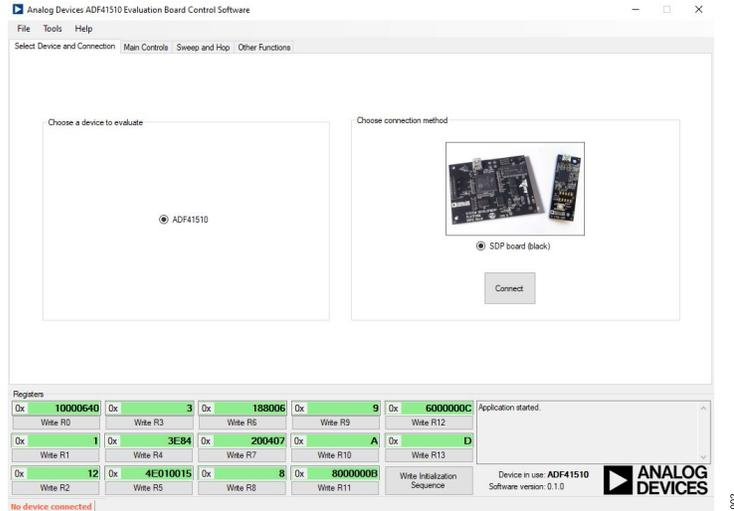

Figure 2. Software Front Panel Display, Select Device and Connection Tab
2. In the **Select Device and Connection** tab, click **Connect** (see Figure 2).
9. Select **ADF41510** and **SDP board (black)** in the **Select Device and Connection** tab (see Figure 2).